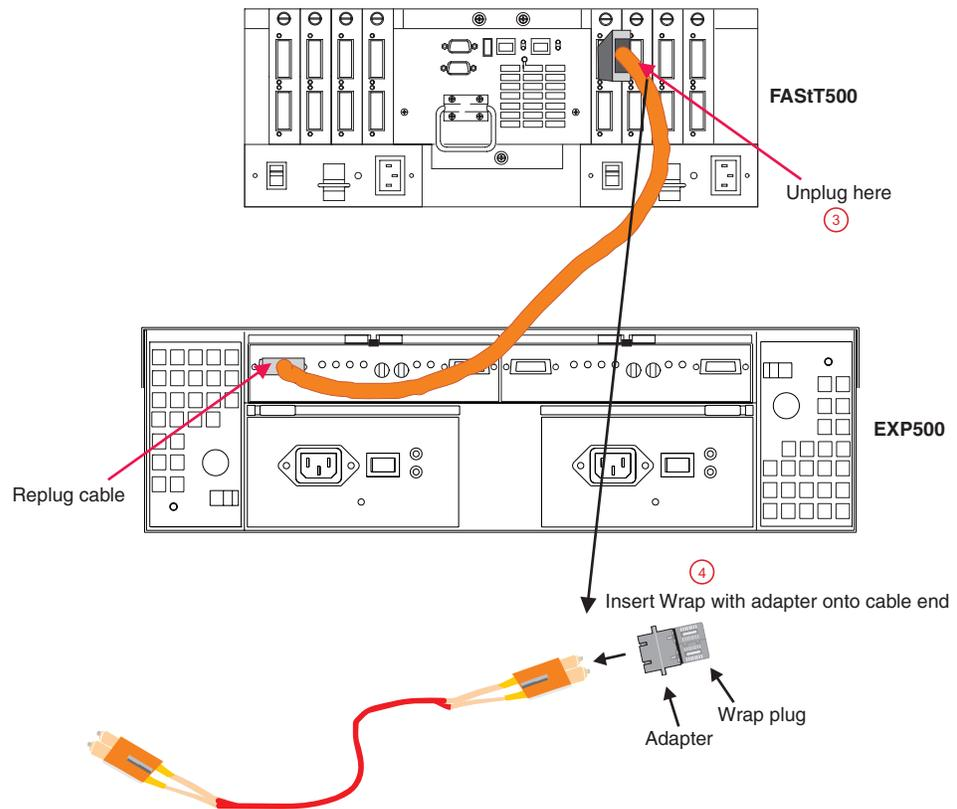

Figure 149. Insert Wrap with Adapter on Cable End
4. Insert a wrap plug with an adapter onto the cable end. See Figure 149 on page 312.